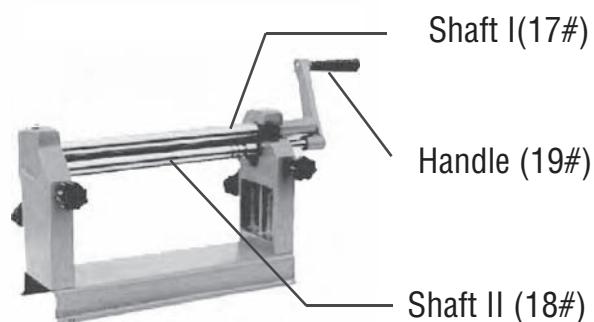

Figure 3
4. Insert material's edge between Shaft I (17#) and Shaft II (18#). **See Figure 3.**